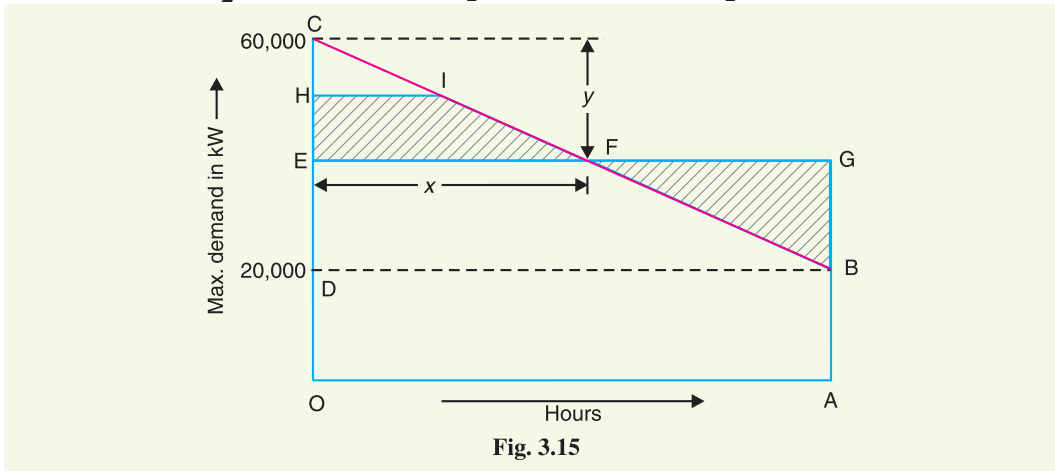

Fig. 3.15
**Solution.** OCBA represents the load duration curve for the combined system as shown in Fig. 3.15. The total maximum demand (*i.e.*, 60,000 kW) is represented by OC, whereas the minimum demand (*i.e.*, 20,000 kW) is represented by OD.